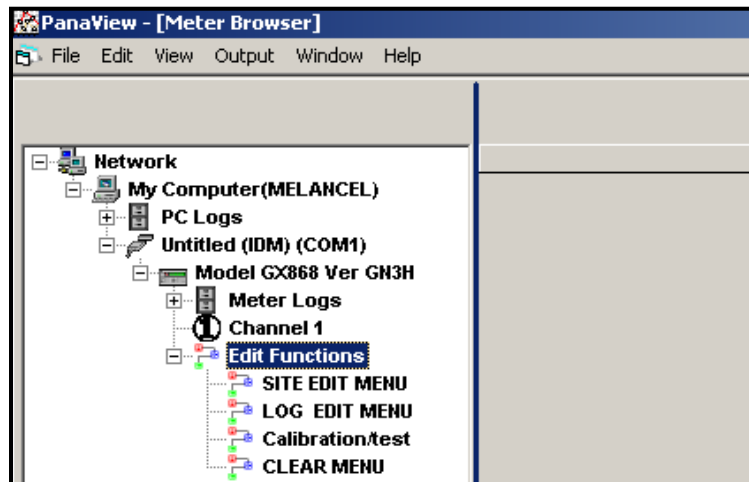

Figure 35: Meter Tree with Edit Functions Option
4. From the meter tree, expand the *Edit Functions* option. The window now appears similar to Figure 35 below, with a list of available menus. The menus listed are those available on the meter.